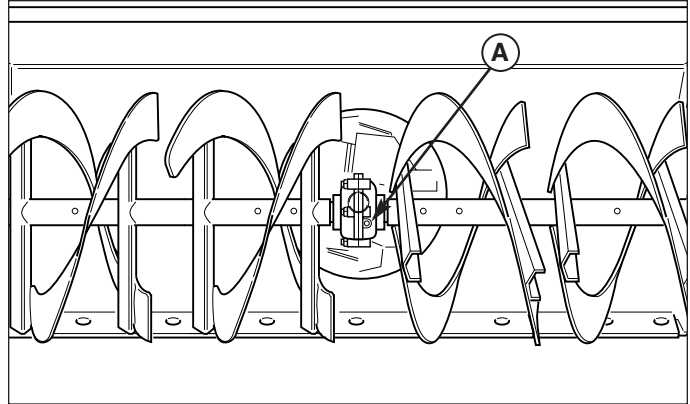

Figure 3. Auger Gear Box Oil
1. Remove the plug (A, Figure 3) from the side of the auger gear box.
3. Reinstall the plug (A).